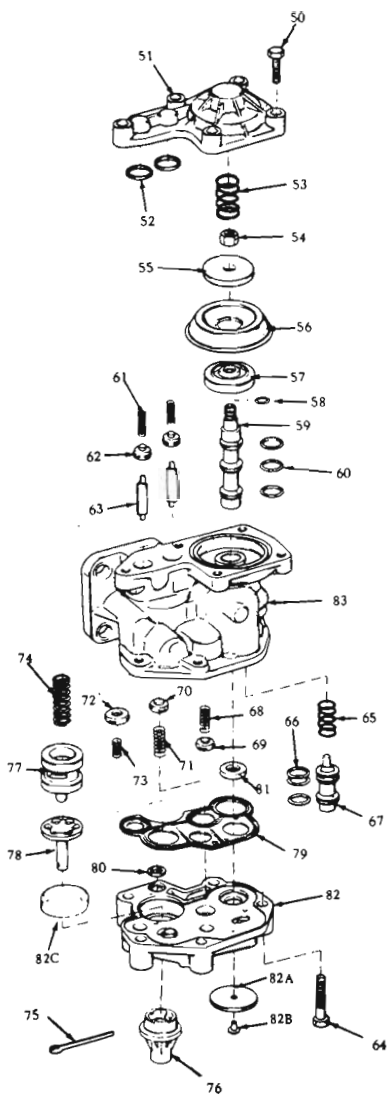

Figure 22 "ABD" Release Valve Portion Parts
9.2 “ABD” Release Valve Portion Parts (See Figure 22)